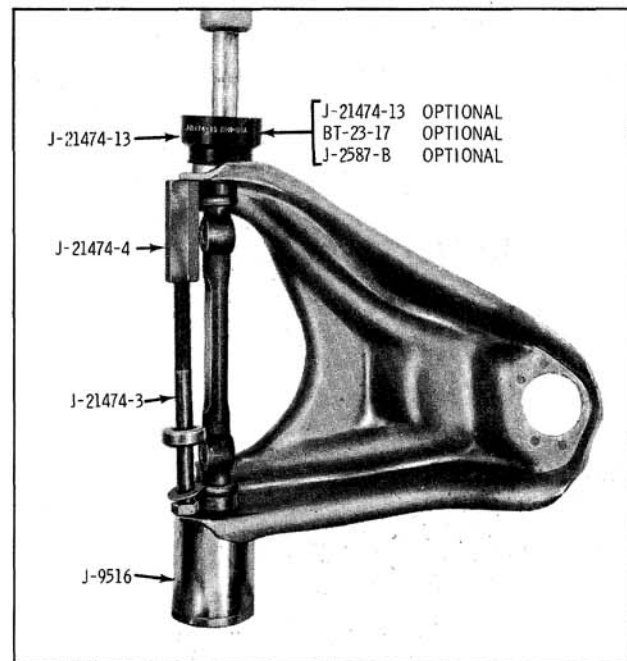

Fig. 9-135 Bushing Installation
1. Place arm in press as shown in Fig. 9-135, using J-21474-3 and 4 as a spreader to prevent distorting the control arm.